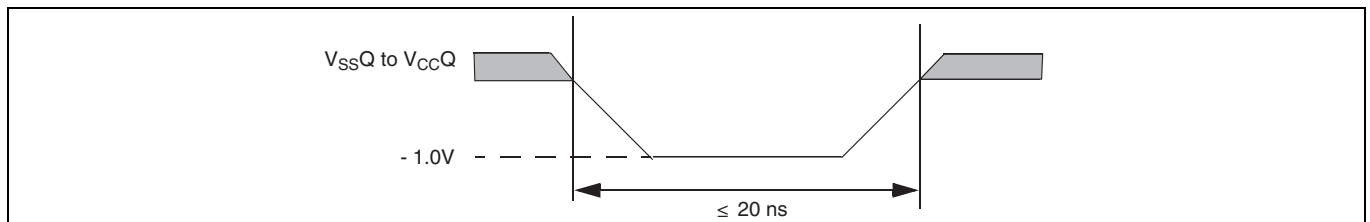
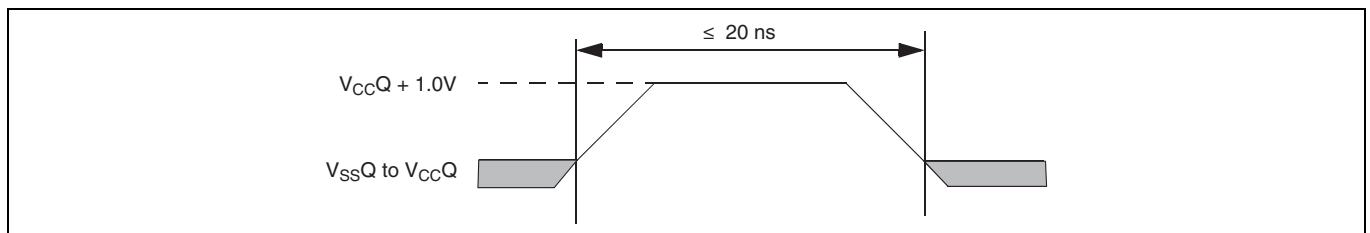

Figure 27 Maximum negative overshoot waveform
Figure 28 Maximum positive overshoot waveform
30. Minimum DC voltage on input or I/O signal is -1.0V. During voltage transitions, input or I/O signals may undershoot V_{SS} to -1.0V for periods of up to 20 ns. See **Figure 27**. Maximum DC voltage on input or I/O signals is V_{CC} +1.0V. During voltage transitions, input or I/O signals may overshoot to V_{CC} +1.0V for periods up to 20 ns. See **Figure 28**.